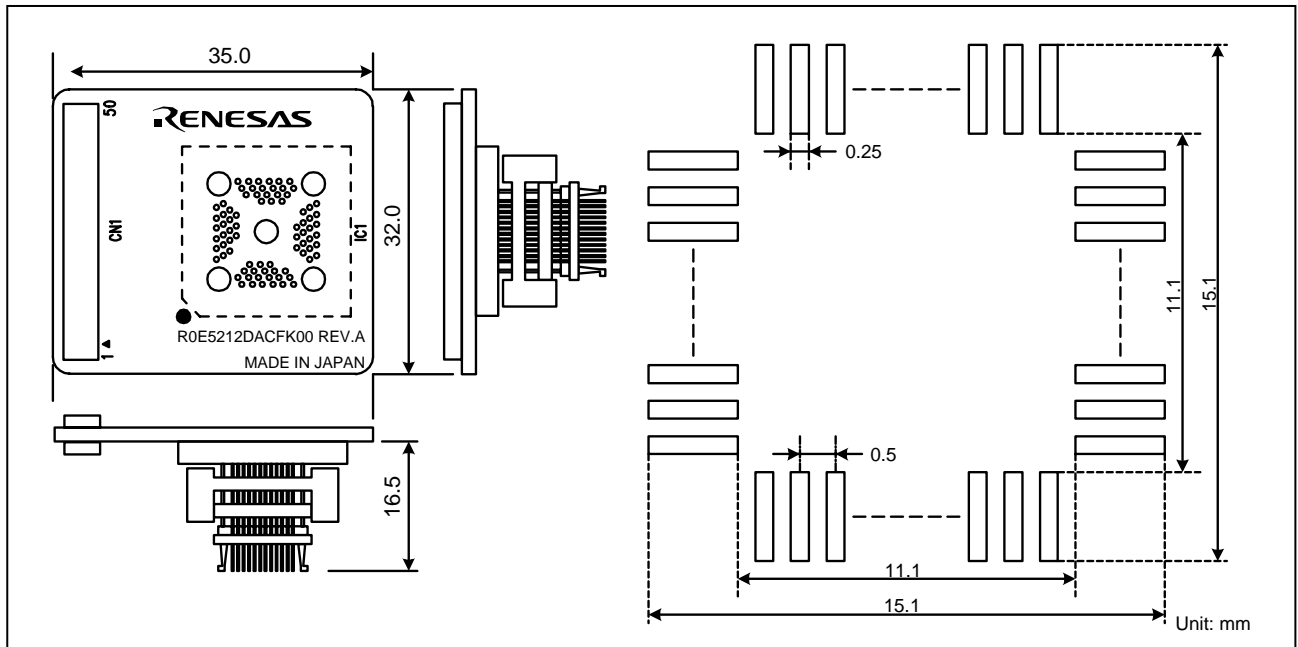

Figure 4 External dimensions and a sample foot pattern of the R0E5212DACFK00
6. External Dimensions and a Sample Foot Pattern (See Figure 4)